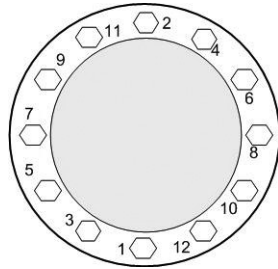

Figure 28: Upper Casing Bolts Torque Pattern
21. Install the (12) upper casing bolts 'finger-tight'.
22. Torque the (12) upper casing bolts in the pattern shown in Figure 28. See the "Engineering Data" section on page 8 of this manual for the proper torque value.